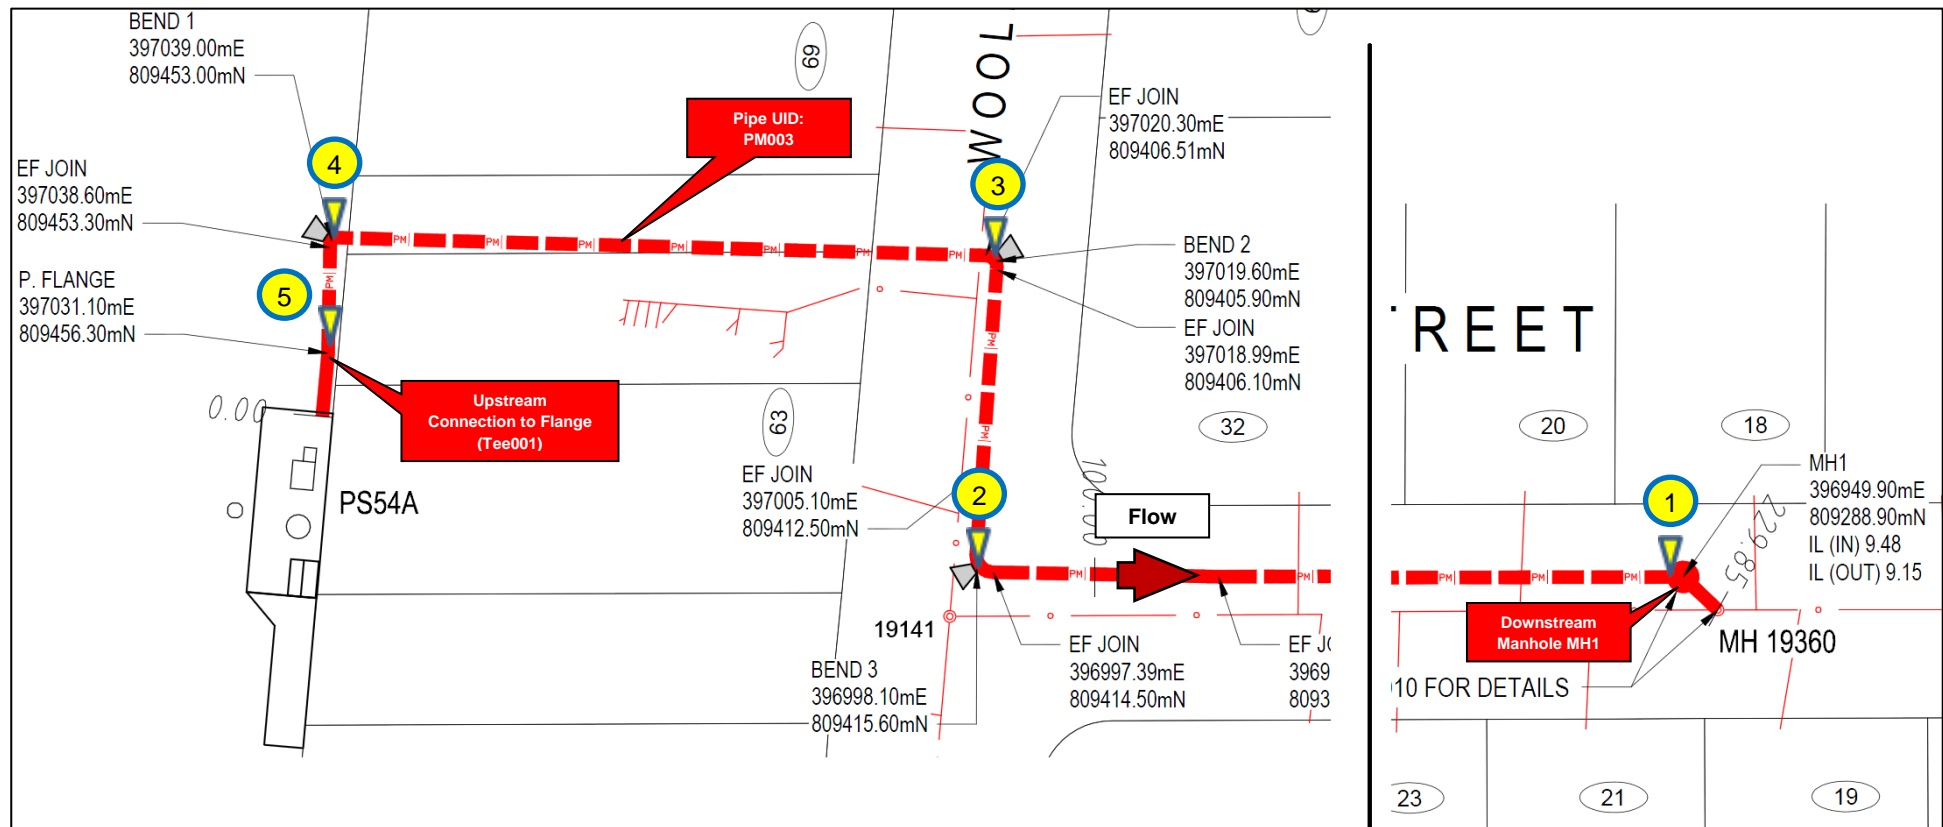

Figure 26: Example of Pressure Main between PS54 Flange 'Tee001' and Manhole 'MH1' with the unique name 'PM003' with 5 vertices
Figure 27 is an example of typical SAT data for SAG feature **E02 Pressure Main** with five vertices (Figure 26). Please note:
- To avoid misunderstandings, please enter the vertex order in column I (numbers in yellow circles in figure 26).
- Col I: holds the vertex number (yellow numbers in figure 26), for **arc codes see feature E09**